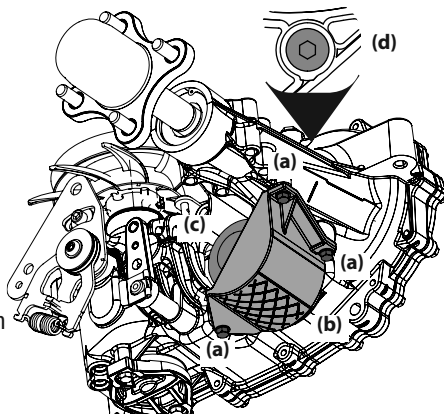

Figure 34
2. Remove the three filter guard screws (a) and the filter guard (b). Clean any loose debris from around the filter (c). See Figure 34.
7. Remove the top port plug (d) from the transaxles to allow the transaxles to vent during filling. See Figure 34.